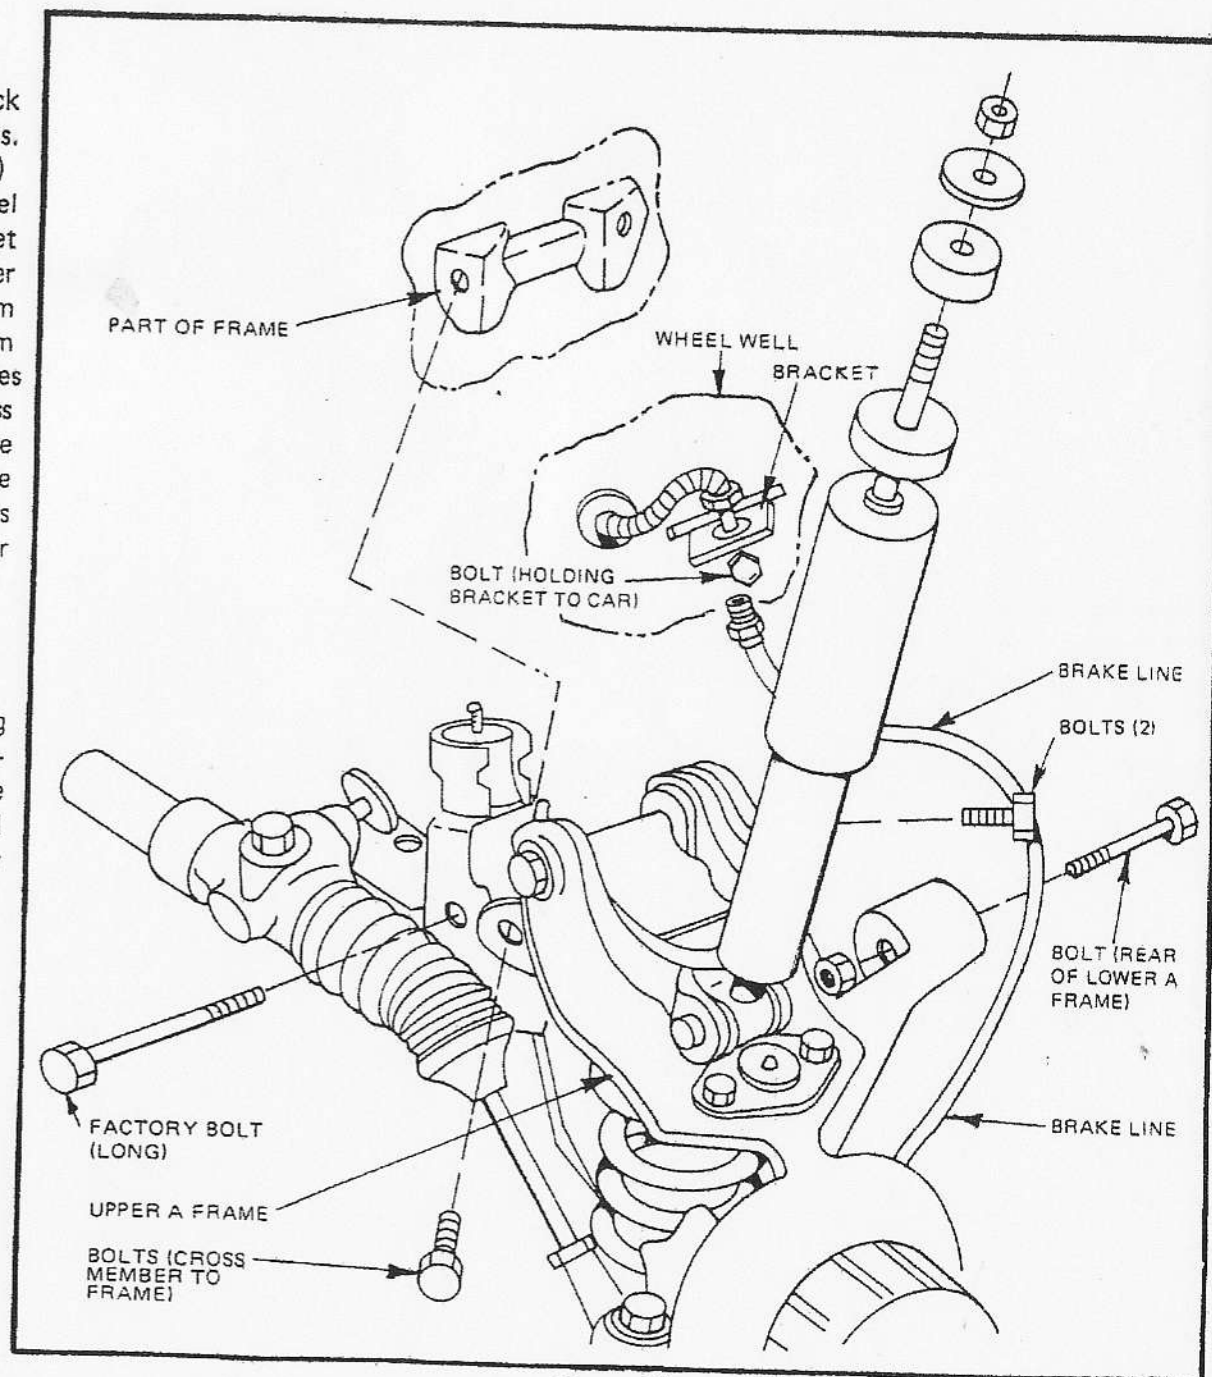

Figure 12
- ☐ Jack up front of car and secure on jack stands under frame. Remove wheels. Remove shock absorbers. (Figure 12) Disconnect brake lines under wheel wells and remove bolt holding bracket to car. Leave bracket attached to rubber hose. Remove stabilizer bar from lower "A" frame. Remove bolt from rear of lower "A" frame where it attaches to body. Place floor jack under cross member and jack up slightly. Remove two bolts located just below under side of upper "A" frames. Remove bolts holding cross member to frame. Lower jack and remove cross member.